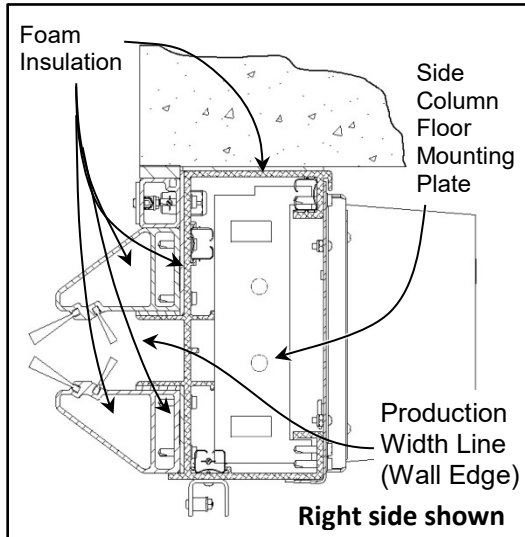

Figure 22
1. Insert the side column floor mounting plates into the bottom of each side column. Make sure all wires, power cords, and any other items are not on or under the Anchor Plate. Damage could occur if they are. (See Figure 22)
3. Secure the side column mounting plates to the floor through the 2 holes in each plate. (See Figure 22)